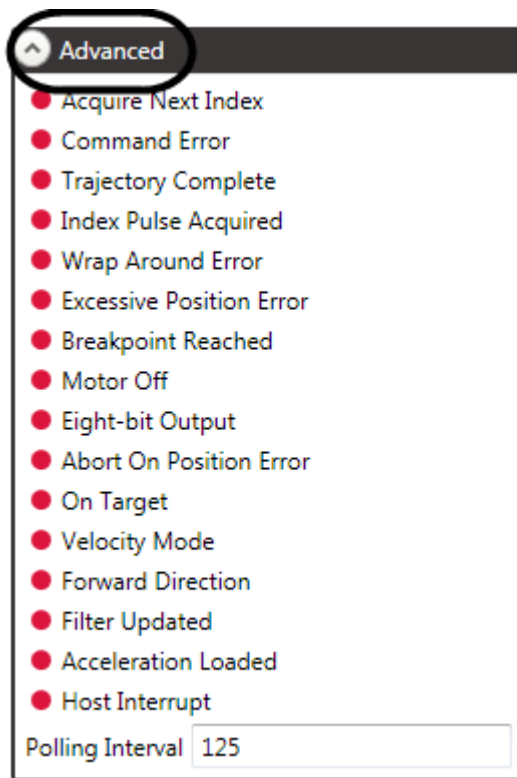

Figure 153
2. Scroll to the **Advanced** section of the **Stagehand Editing Pane** (Figure 153).